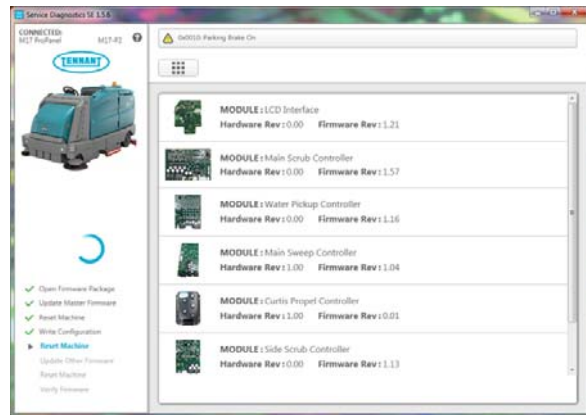

FIG. 18
- The application will begin configuring the new control board. Allow the configuration process to be completed. (Fig. 18)